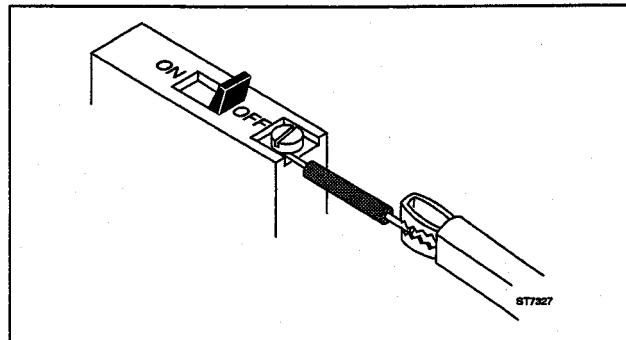

Figure 5.8 Connecting the wires
MAKE CONNECTIONS TO CIRCUIT BREAKERS BY FIRST TURNING THE CIRCUIT BREAKER OFF. THEN CONNECT THE ALLIGATOR CLIP TO THE BREAKER OUTPUT TERMINAL VIA A SHORT PIECE OF INSULATED WIRE AS SHOWN IN FIGURE 5.8.
- ① Make sure the circuit breaker is turned off. Connect the ScopeMeter to two circuit breakers and the neutral buss bar as shown in Figure 5.8. Use the alligator clips for the red and grey scope probes and black multimeter test lead.
- ② **LCD** + **ON/OFF**